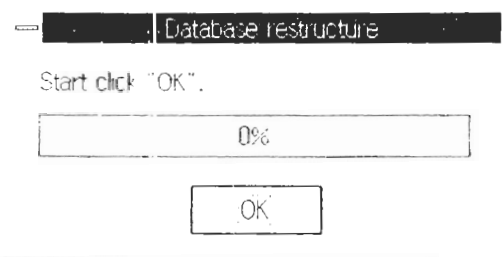

Figure 10-2
- (2) After the program starts, screen as shown in Figure 10-2 is displayed.